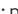

Fig. 77 Driver door: button to open and close rear lid.
- **EITHER:** pull the  button on the driver door upwards >>> **Fig. 77.** The button also works when the ignition is switched off.
- **EITHER:** pull the  button on the driver door upwards >>> Fig. 77 (only while the ignition is on).